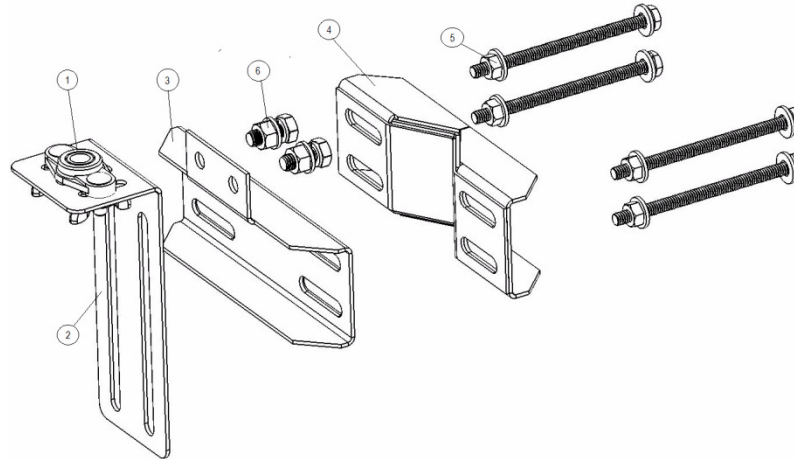

Figure 13 – Universal Bracket Kit
The typical universal bracket kit includes the components shown in Figure 13.
1. Make sure that you have all of the required parts. See Figure 13.